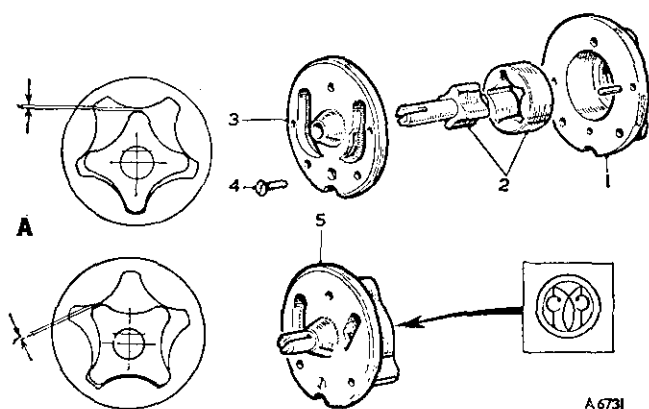

Fig. A.20
- (4) The pump cover is located on the pump body by two dowels and a machine screw. When the screw is removed the pump can be separated for examination and replacement where necessary.
- (5) Install the rotors in the pump body.
- (6) Place a straight-edge across the joint face of the pump body, and measure the clearance between the top face of the rotors and the underside of the straight-edge. The clearance should not exceed .005 in. (.127 mm.). In cases where the clearance is excessive this may be remedied by removing the two cover locating dowels and lapping the joint face of the pump body.
- (7) Install the rotors in the pump body and measure the clearance between the rotor lobes when they are in the position shown in Fig. A.20. If the clearance is in excess of .006 in. (.152 mm.) the rotors must be renewed.
- (8) Reassembly is a reversal of the dismantling procedure.
- (9) After reassembling, check the pump for freedom of action.